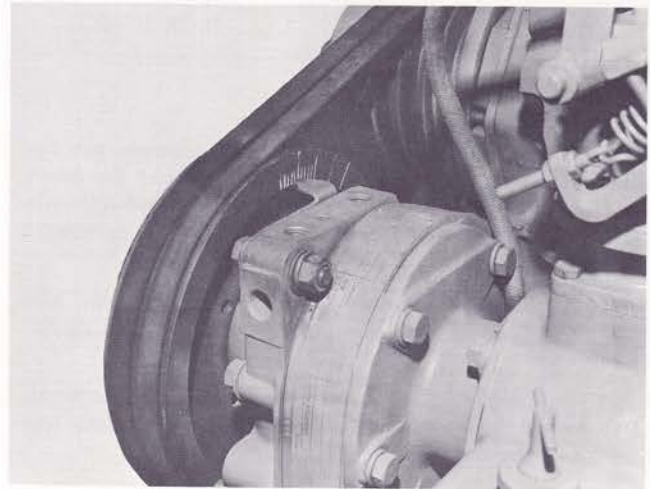

Fig. 3-5. GNH timing marks
1. Bar engine in direction of rotation until No. 1 VS mark appears. See Fig. 3-5 through 3-6 for location of valve set marks. In this position, both intake and exhaust valves will be closed for cylinder No. 1. If not, rotate engine one complete revolution.